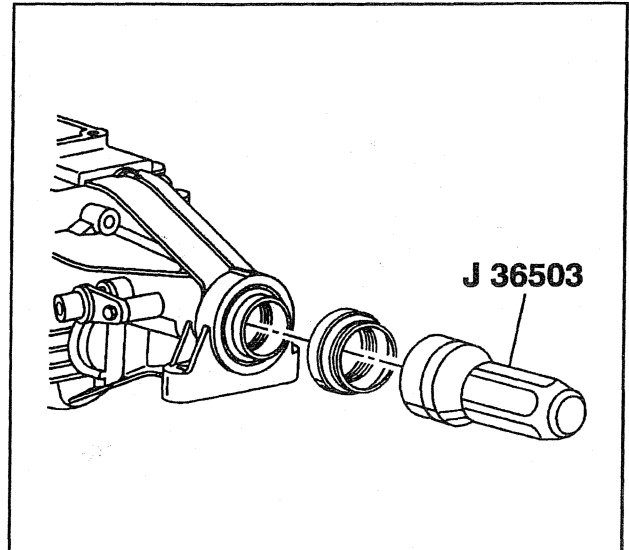

Figure 7—Extension Housing Seal Installation (2WD Models)
Install or Connect (Figure 7)
1. New seal, using J 36503 (figure 7).